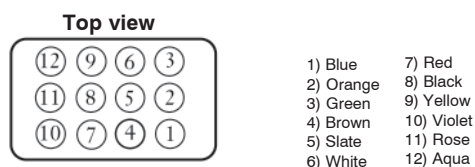

Figure 16
7.3 Repeat steps 7.2 for the remaining fibers in sequential fiber order (i.e., blue, orange, green, brown, etc.). Work the threading process across the 900 μm tube assembly in the proper order (Figure 16).